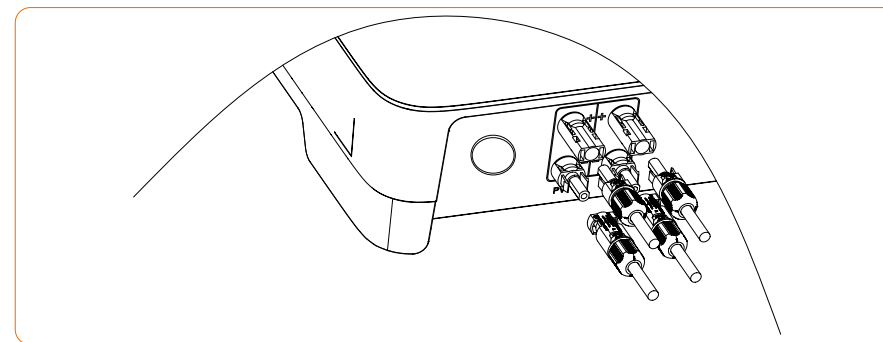

Figure 4-14
① Before assembling the DC connector, make sure that the cable polarity is correct.
② Use a multimeter to measure the voltage of the DC input string, verify the polarity of the DC input cable, and ensure that each string voltage is within 600V.
3. Insert the positive and negative connectors into the inverter DC input terminals respectively, a click sound should be heard if the terminals are well connected, as shown in Figure 4-14: